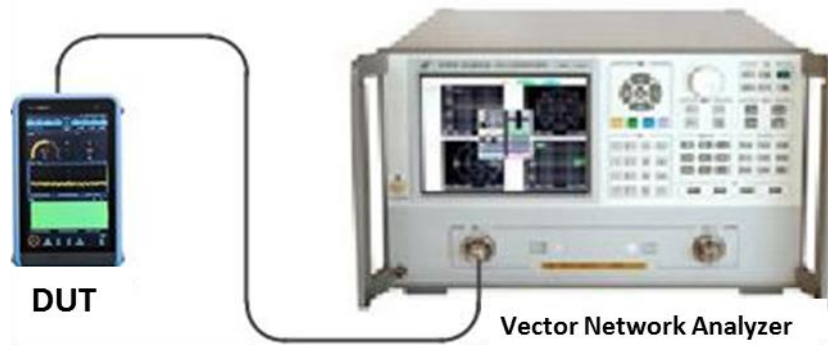

Fig. 8.3 Schematic diagram of input port SWR test
- 3) After completing the calibration, remove the calibration piece from the vector network analyzer. Connect the test equipment according to Fig. 8.3 and connect the test port to the input port of the device to be tested.